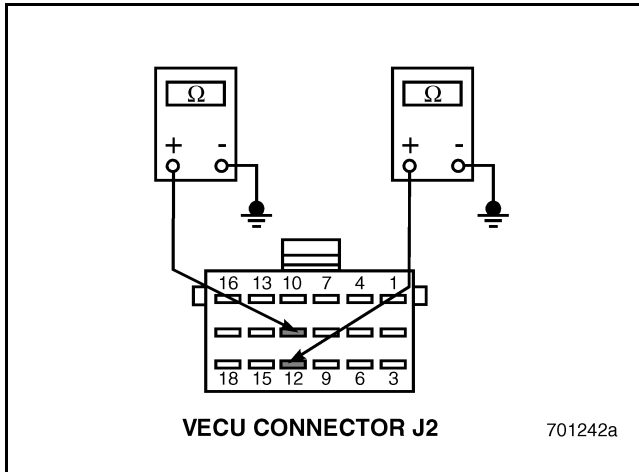

Figure 444
5. Check for continuity between the circuit (connector J2 pin 11 or 12) that showed continuity in Test 19 and a good ground (see Figure 444).